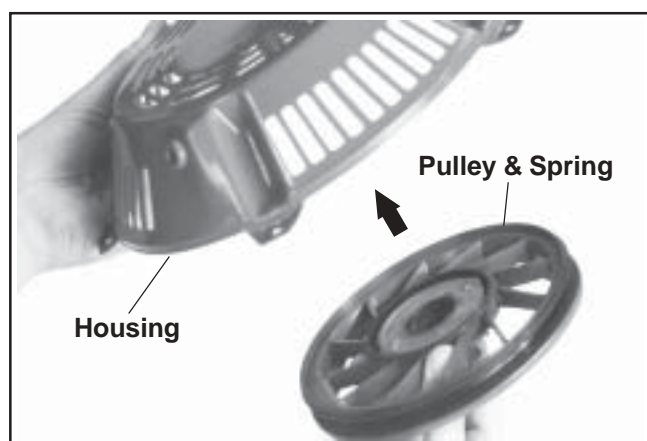

Figure 7-8. Installing Pulley and Spring into Housing.
2. Install the pulley assembly into the starter housing. See Figure 7-8. Make sure the pulley is fully seated against the starter housing. Do not wind the pulley and recoil spring at this time.